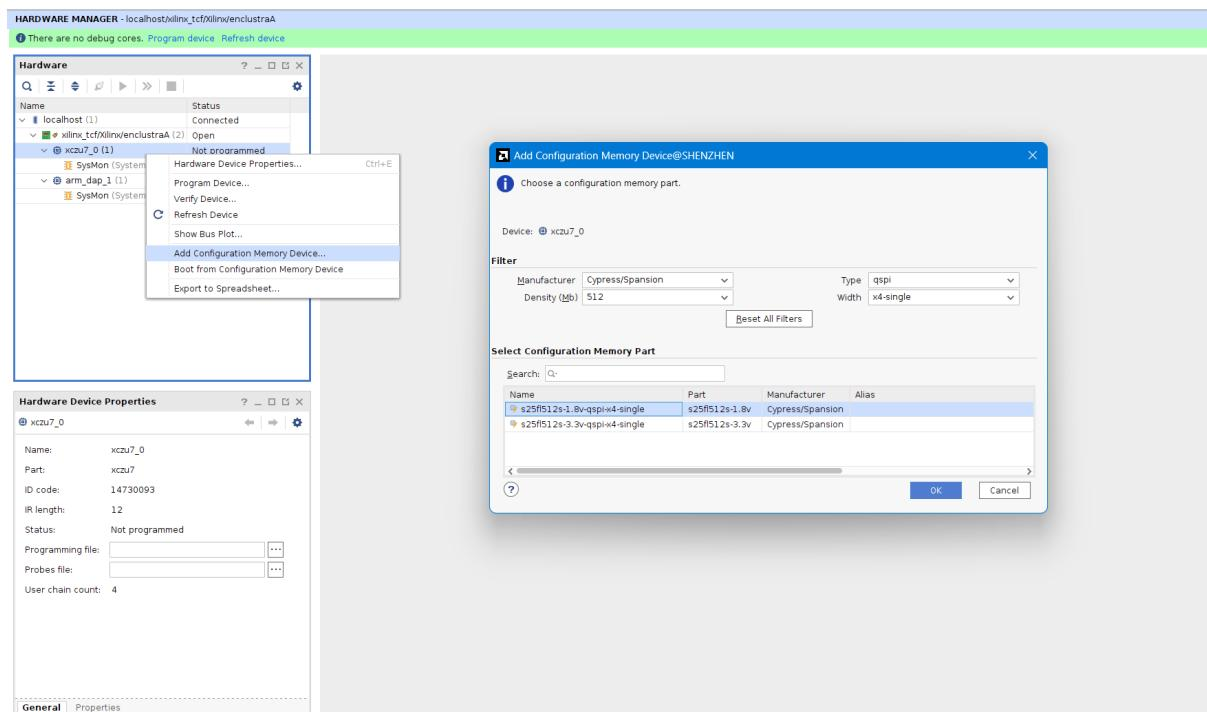

Figure 5: Example Dialog Vivado Configuration Memory (QSPI)
3. Select **Open target > Auto Connect**. The hardware manager should be able to connect to the device as shown in Figure 5.
4. Right-click the MPSOC and select **Add Configuration Memory Device...**. A dialog as the one shown in Figure 5 appears.